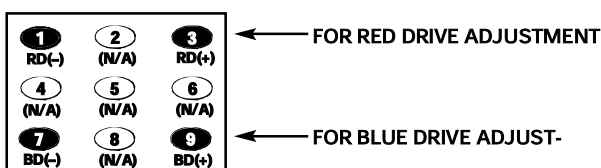

Figure 5. Remote Control Number keys' function in Service Menu NO. 40 DRV
- 7, or 9 key to produce normal black and white picture in highlight areas. (See figure 5 below.)